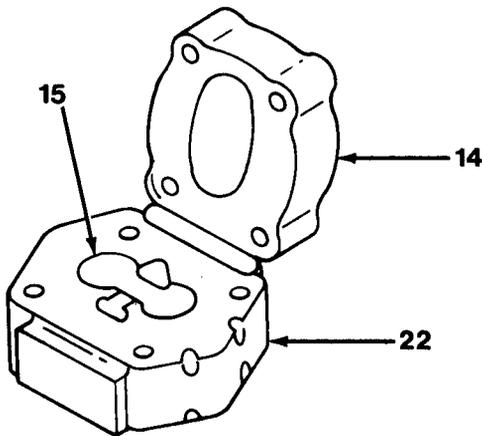

Figure 13-3
2. Lift off flange (14) from gear plate (22) and remove thrust plate (15, Figure 13-3).